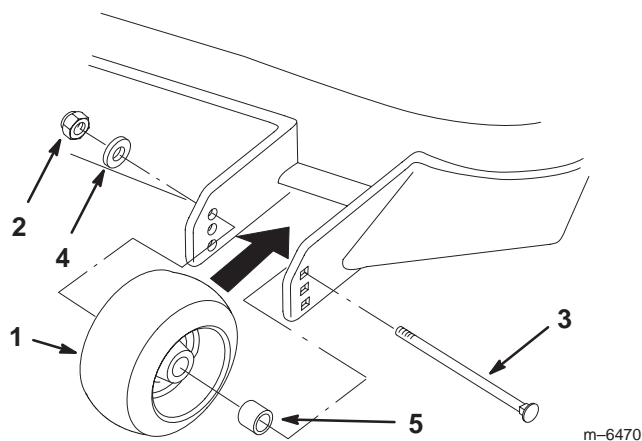

Figure 22
1. After adjusting height-of-cut, check the gage wheels so that there is a minimum of 3/8 inch (10 mm) clearance above the ground (Figures 22 and 23).
2. If adjustment is needed, remove the bolt, washer(s) and nut (Figures 22 and 23).
3. Select a hole position so the gage wheels are a minimum of 3/8 inch (10 mm) off the ground (Figures 22 and 23).
4. Install the bolt, washer(s) and nut (Figures 22 and 23).